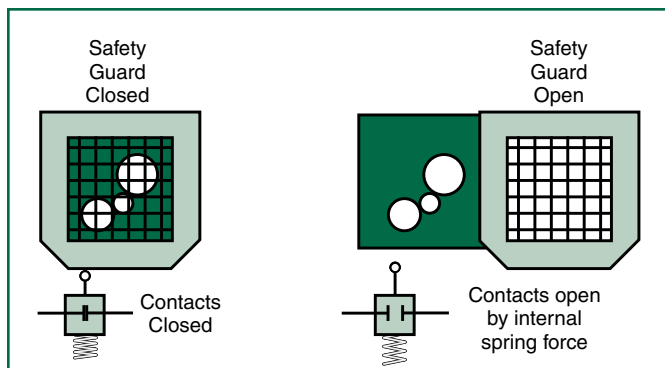

Figure 1
Negative Mode Mounting: the mounting of a single-piece safety interlock switch (e.g. a limit switch) such that the force applied to open the normally closed (NC) safety contact is provided by an internal spring. (See Figure 1.)